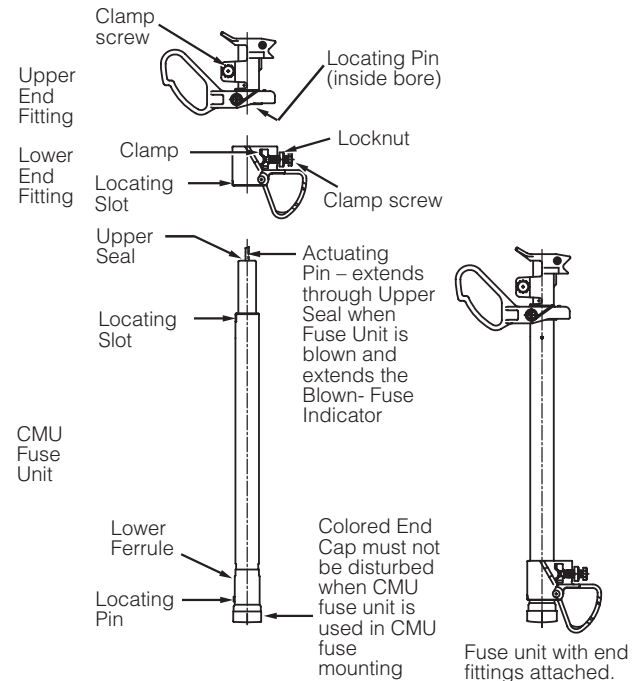

Figure 3. Outdoor CMU fuse fittings
Attach the fuse end fittings (Refer to **Figure 3**) as follows:
1. When the fuse operates, the fuse assembly swings to the 'Open' position. Remove it from the mounting, using a hookstick. Examine the end of the fuse to determine that the actuating pin (Refer to **Figure 3**) extends through the upper seal, indicating that the fuse has operated.